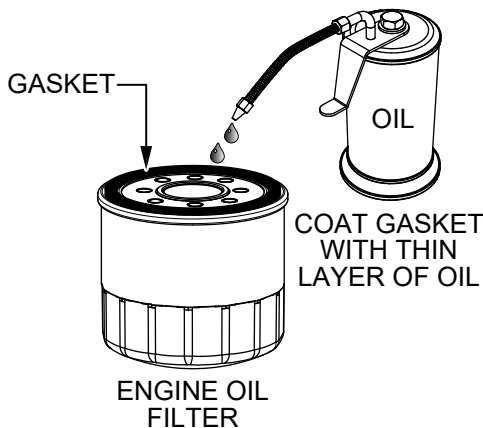

Figure 33. Lubricate New Oil Filter Gasket
- Lightly coat the **gasket** of the new oil filter (Figure 33) with clean engine oil.